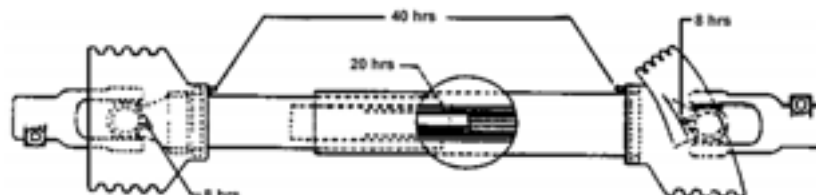

Figure 6
IF THE GENERATOR IS TO BE USED AS A STANDBY POWER SOURCE, A SPECIAL DISCONNECT SWITCH MUST BE INSTALLED TO SEPARATE THE GENERATOR AND THE COMMERCIAL POWER LINES. THE DISCONNECT MUST ISOLATE THE GENERATOR FROM THE COMMERCIAL POWER LINES AND THE LOAD WHEN THE GENERATOR IS ON STANDBY, AND MUST ISOLATE THE COMMERCIAL POWER LINES FROM THE LOAD AND THE GENERATOR WHEN THE GENERATOR IS SUPPLYING POWER. SEE FIGURE 6
3. The splined generator input shaft should be cleaned and lubricated with a thin film of grease before and after each use of the generator. See Figure 6 for lubrication schedule.
4. The drive shaft (tumbling bar) requires greasing. Keep the universal joints in the coupling shaft free from grease and dirt buildup. See Figure 6 for lubrication schedule.